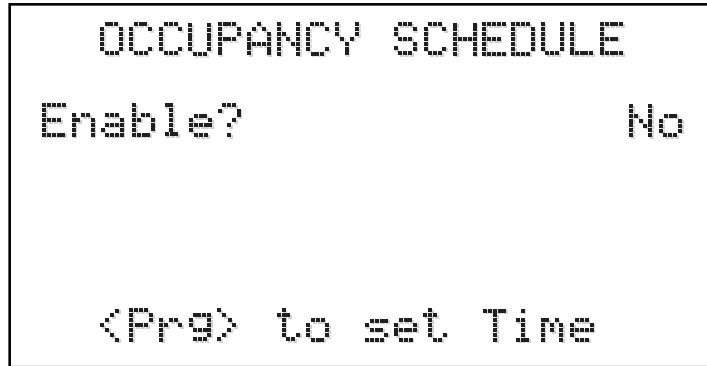

Figure 13
4.3.3 Occupancy Schedule (Figure 13)
Select the OCCUPANCY SCHEDULE from the MAIN MENU to enable a schedule to place the dehumidifier in the occupied mode (see Figure 13). To enable a schedule select Yes, and press **ENTER**. The schedule will need to be set up before this will be enabled. Pressing the **Prg** key from this menu allows the date and time to be modified.